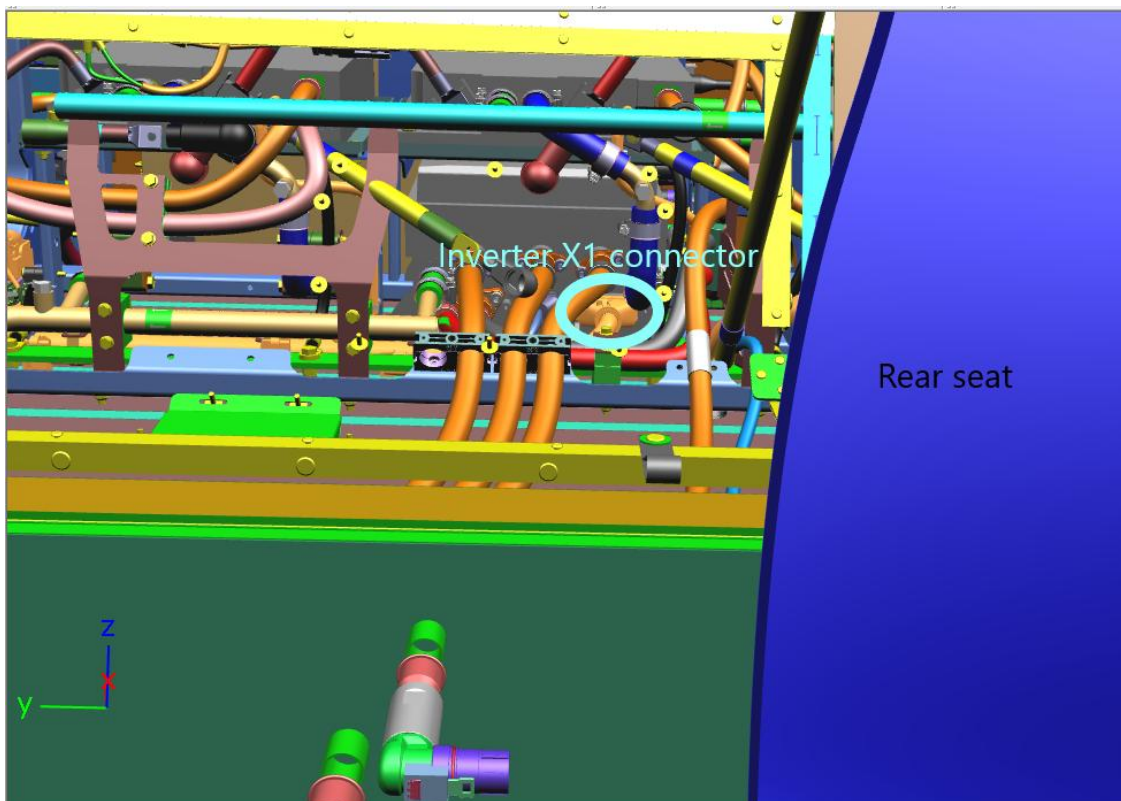

Figure 1: XE35/40 traction inverter X1 connector highlighted in light blue
5. Locate the X1 connector on the traction inverter (see figure 1) and remove it. Secure this connector nearby using Tywraps to reconnect later. Be aware the locking tab is located on the bottom of the connector and needs to be opened.